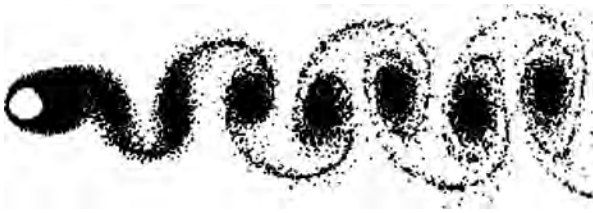

FIGURE 2.8 Vortex street phenomenon.
- Over a large N_{Re} range ($47 < N_{Re} < 10^7$ for circular cylinders), eddies are shed continuously from each side of the body, forming rows of vortices in its wake. The alternation leads to the core of a vortex in one row being opposite to the point midway between two vortex cores in the other row, giving rise to the distinctive pattern shown in Figure 2.8. Ultimately, the energy of the vortices is consumed by viscosity as they move further downstream and the regular pattern disappears.
- A vortex street phenomenon is illustrated in Figure 2.8.